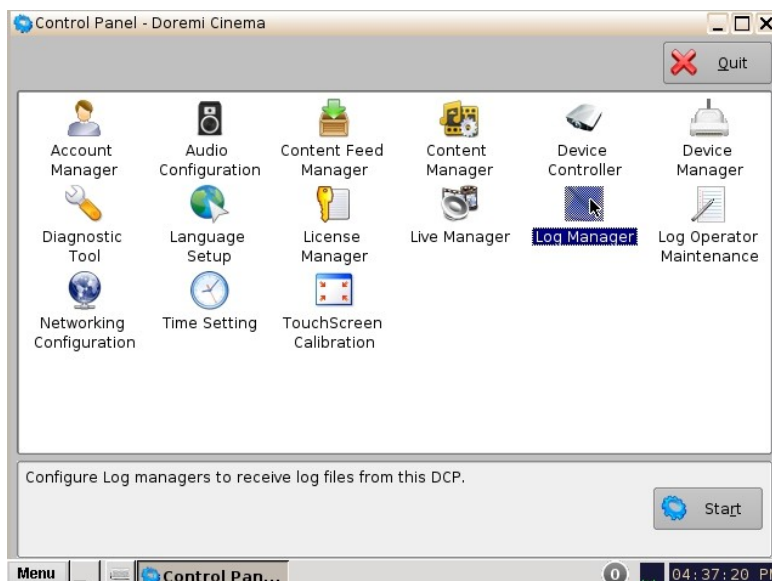

Figure 126: Control Panel
- To open the Log Manager application, go to Menu → Control Panel and double-click on the Log Manager icon (Figure 126).